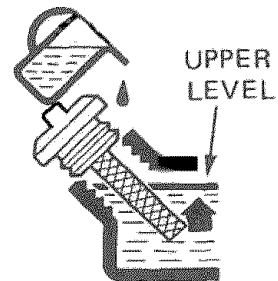

Figure 3- Adding oil
3. Using a funnel, add the appropriate amount of oil, as found in figure 1, into the crankcase. You will know the crankcase is full when the oil level has reached the lower lip of the opening you have just poured the oil into (see figure 3).